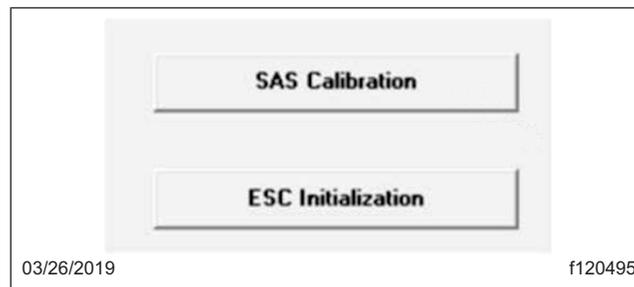

Fig. 5, Selecting SAS Calibration or ESC Initialization
4. In the message box that appears, select 'SAS Calibration.' See Fig. 5.
3. Select 'ESC Initialization.' See Fig. 5.